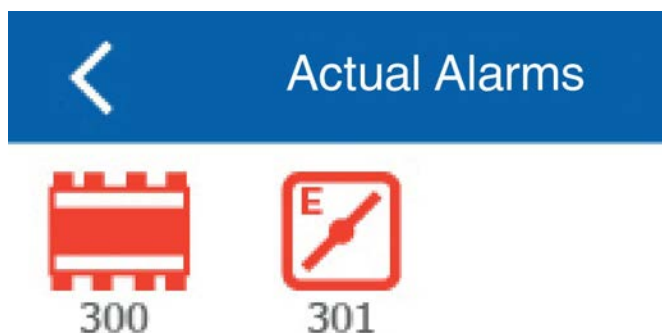

Fig. 123: Alarm messages
Alarms are shown on the Start screen of the control panel (Fig. 123 /1). There are two types of alarms: A and B.
- ⇒ The 'Actual Alarms' screen (Fig. 123) displays.
2. ▶ Note the alarm number on the screen in Fig. 123 , then go to the alarm table (↗ 'List of B alarms' on page 98) to find out more about the error.